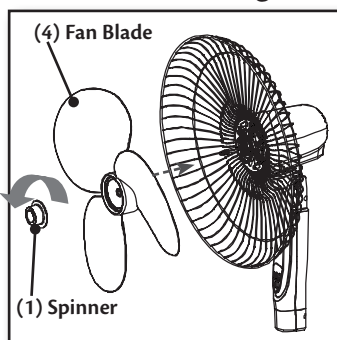
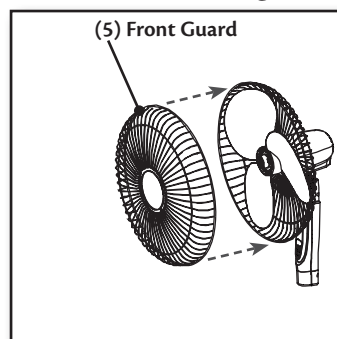

Figure 5.
Figure 6.
5. Install the Fan Blade (4) by sliding it over the motor housing shaft, lining up the cut-outs on the back of the Blade with the Retaining Pins on the Motor shaft. **Figure 5.**
6. Screw the Spinner (1) onto the shaft counterclockwise until secure. **Figure 5.**
7. Open the clips on the Front Grill and remove the grill screw from the outside of the rear grill (5) ring.
8. Set the Front Gill (5) into the notch on the bottom of the Rear Grill (3) So the Hunter logo is facing rightside up. **Figure 6.**